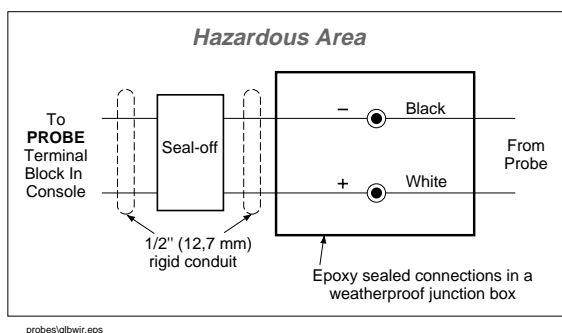

Figure 9. Two-Wire Global Probe Field Wiring Diagram
3. Pass the two-wire end of the probe cable through the J-box cord grip fitting and into the J-box. Pull the excess wire through the fitting and out the opened side of the J-box. After sliding the J-box cord grip fitting up to the J-box, apply the UL-classified sealant (suitable for use with the fuel involved) to the fitting then screw it into the J-box. Tighten the J-box cord grip fitting winged nut to ensure a watertight seal at the probe cable entry. Using the wiring nuts, connect the wires from the probe cable to the field wires from the console. Be sure to observe proper polarity between probe and console [Figure 9].